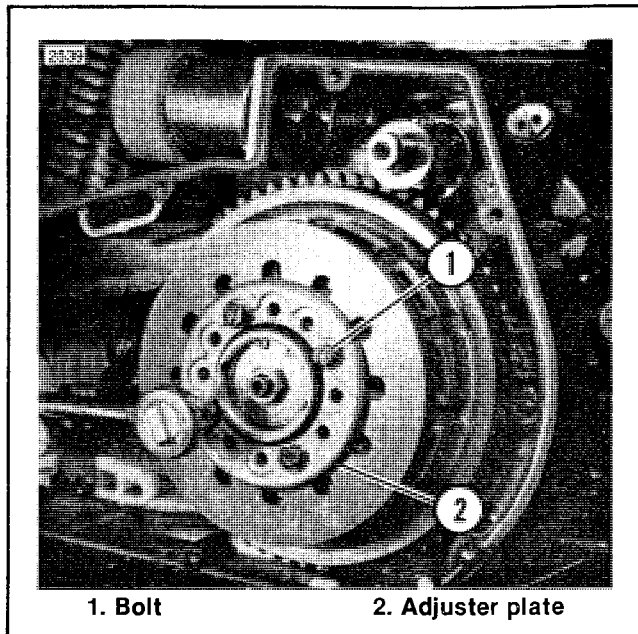

Figure 9. Adjuster Plate Removal
12. See Figure 9. If an adjustment is required, remove bolts (1) by backing out each, alternately, 1/2 to 1 turn at a time until spring pressure is relieved. Position adjuster plate (2) at the mounting holes which will give the correct adjustment.
1. See Figure 9. Remove four bolts (1) together with washers and lockwashers.